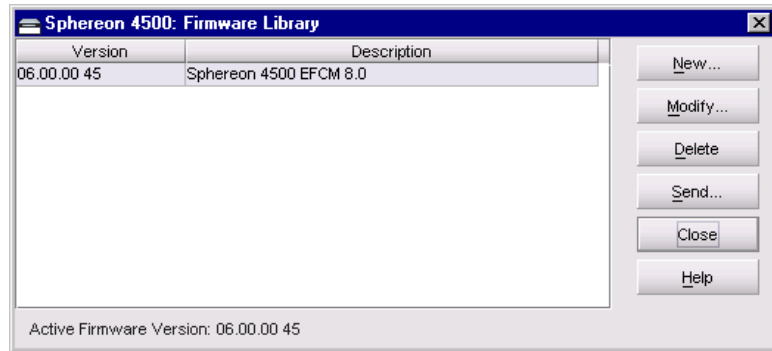

Figure 4-66 Firmware Library Dialog Box
5. Select the *Firmware Library* option from the *Maintenance* menu. The *Firmware Library* dialog box displays (Figure 4-66 on page 4-77).